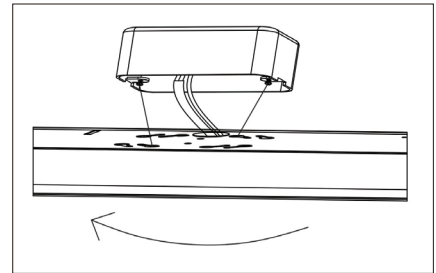

Figure 10
- Attach the lamp base to the junction box by aligning the holes on the lamp base (A) with the screws on the junction box.
- Turn lamp base clockwise to lock in place and tighten screws to ensure the fixture is secure and will not move. (Figure 10)